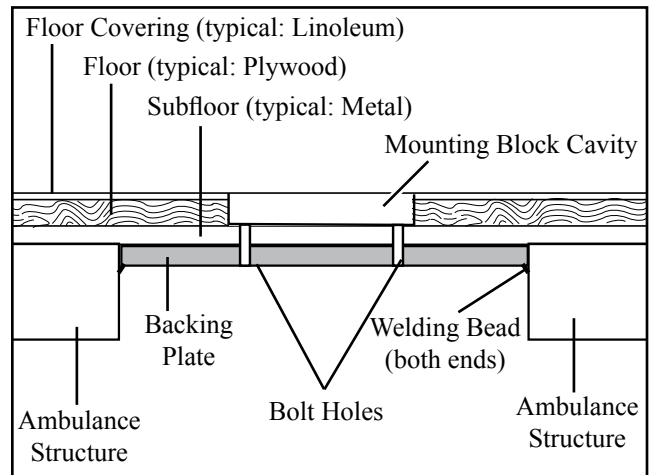

Figure 7 - Typical Floor Cross-Section for Cutting the Mounting Block Cavities
Note: A typical ambulance floor cross-section, showing a floor covering, floor, and subfloor is shown in Figure 7. Your ambulance floor may vary from this.
3. Measure the thickness of the floor (typically plywood, Figure 7). Set the router or saber saw to the proper height to cut through the floor but not the subfloor (typically metal).